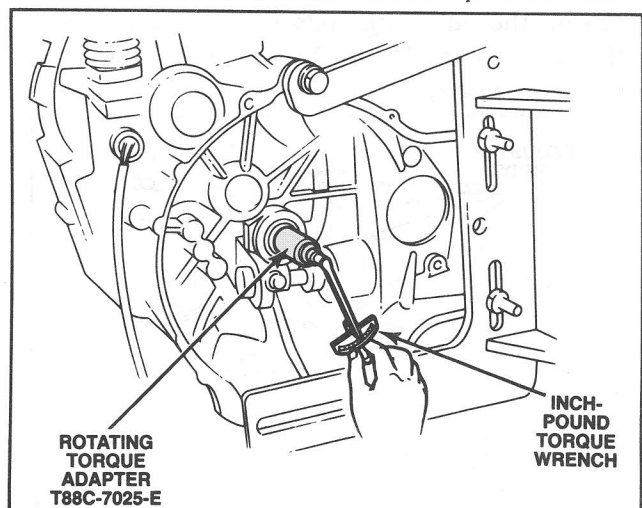

Figure 102 Output Shaft Bearing Preload Measurement
8. Using Rotating Torque Adapter T88C-7025-E and an inch-pound torque wrench, measure the amount of torque required to turn the input shaft. (Figure 102).